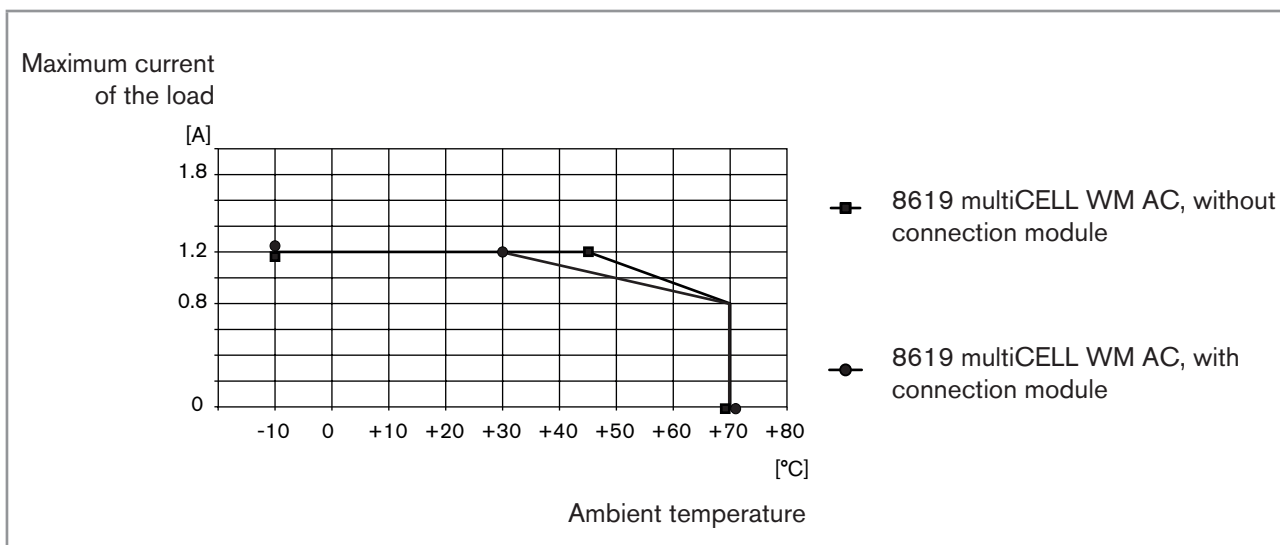

Fig. 4: Derating curves of the maximum permissible current, depending on the ambient temperature
Observe the maximum permissible load as a function of the ambient temperature. See the derating curves Fig. 4, section 6.9.
Observe the maximum permissible load as a function of the ambient temperature. See the derating curves Fig. 4.
- 24 V DC, filtered and regulated, 1,2 A max.: see the curves in Fig. 4. SELV circuit, at a non-hazardous energy level